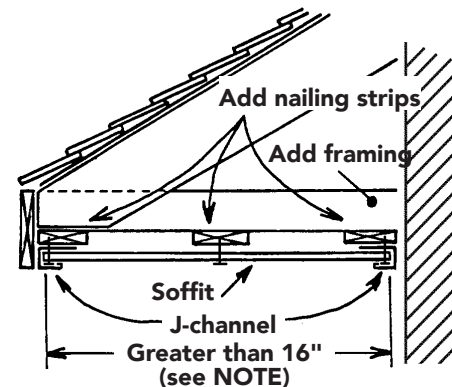

Figure 64
**NOTE:** Nailing strips must be installed as shown in Figure 64 if the eave span is greater than 16" (406mm), unless otherwise specified in the soffit manufacturer's instructions. In areas with high wind restrictions, nailing should not exceed 12" (305mm) on center, unless otherwise specified by the manufacturer.
## In situations with two channels, (Figure 64), flex the panel between the two channels installed.